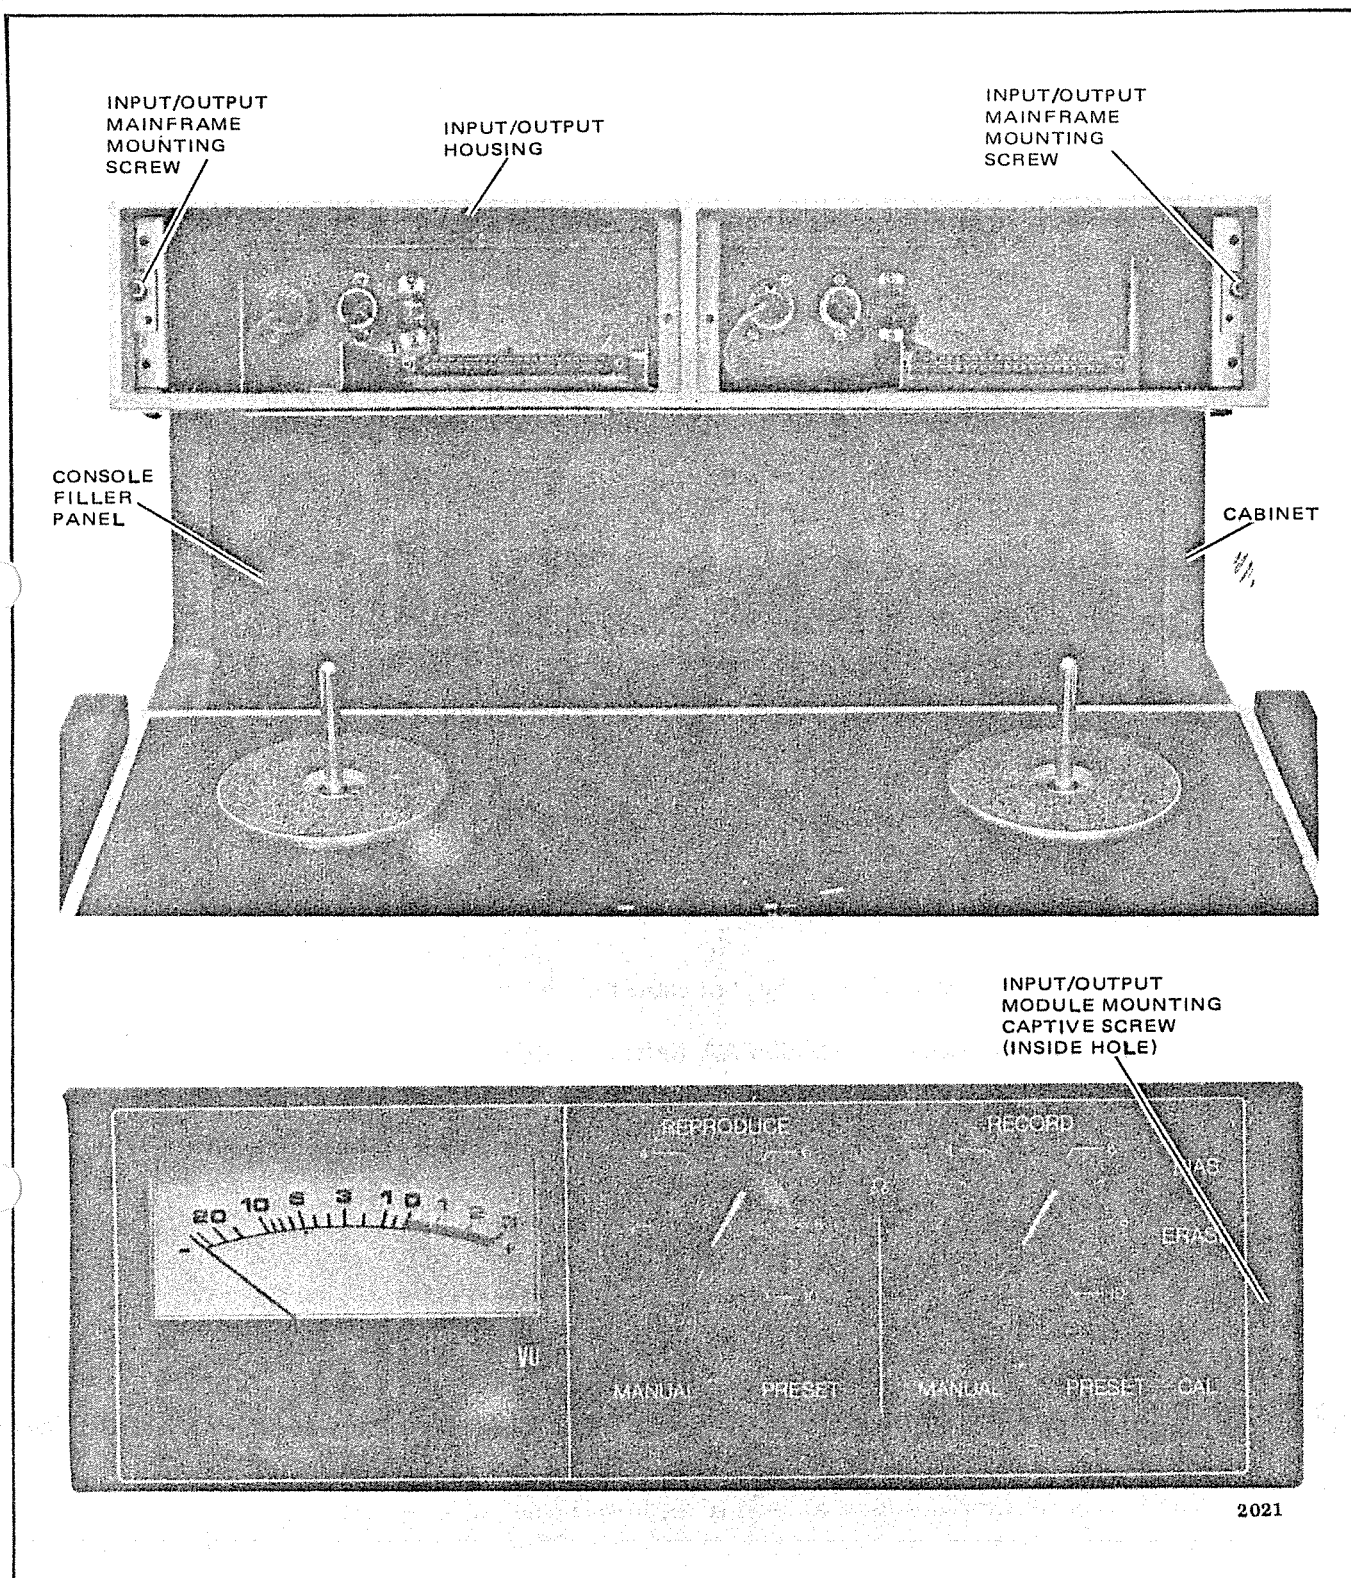

Figure 4. Input/Output Assembly Mounting
- b. Loosen input/output module mounting screws (captive) and remove input/output module (see Figure 4).
- c. Remove input/output mainframe mounting screws and remove input/output mainframe (see Figure 4).
- d. Remove input/output housing (see Figure 4).
- b. Disconnect cable from input/output assembly to transport at J13 or J14 on electronics assembly (see Figure 4).